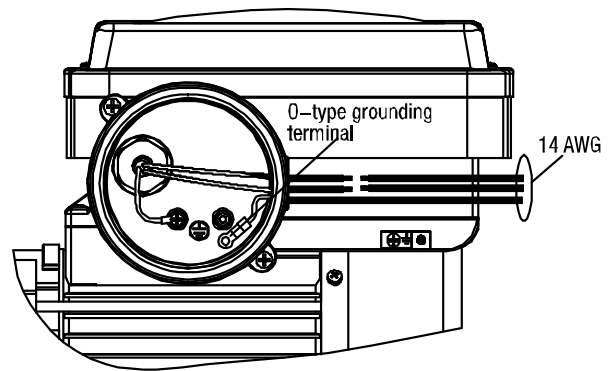

FIG. 2
- ☐ Using multi-function crimping pliers to press o-type grounding terminal which connected 14 AWG. (FIG.2)